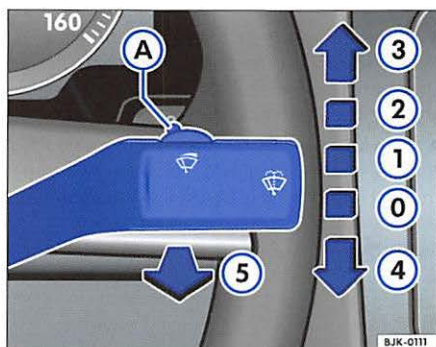

Fig. 33 Windshield wiper and windshield washing lever
The windshield wiper lever $\Rightarrow$ fig. 33 has the following settings:
- Move the lever up to position $\Rightarrow$ fig. 33 ①.
- Turn the lever (A) to either shorten or lengthen the interval. Turn the lever to the left to shorten the frequency. Turn the lever to the right to lengthen the frequency. The windshield wipers will wipe slowly and continuously when the lever is moved all the way to the right.
- The previous wiping speed will be automatically selected when the vehicle stops, regarding wiping speed ⇒ page 53, fig. 33 ② or ③ is selected. The selected speed will be resumed when the vehicle drives off again.
The headlight washers are activated automatically when the switch for the headlights is in any other position than O and the windshield wiper lever ⇒page 53, fig. 33 ⑤ is pulled toward the steering wheel for at least 1.5 seconds. However, you should regularly remove any hard or dried on dirt or insects from the headlights, for example whenever you are refueling your vehicle.